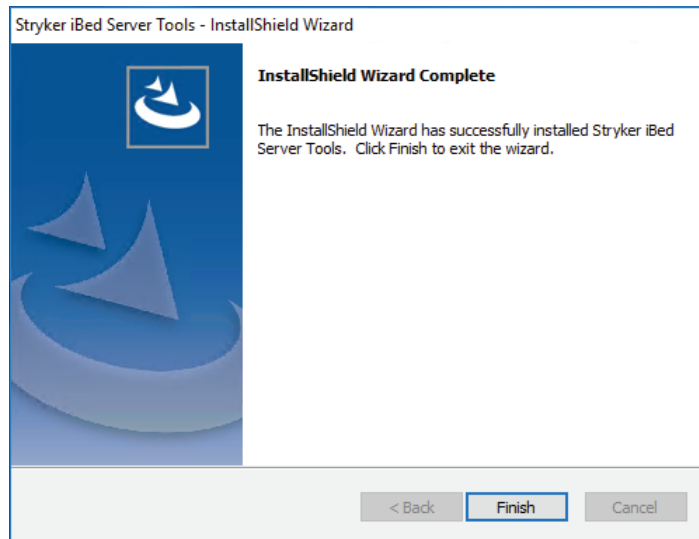

Figure 45 – Finish
4. Select **Finish** to exit the **InstallShield Wizard** (Figure 45).